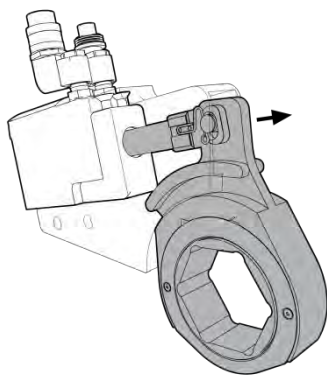

FIGURE 9 – Fully Advanced NHC Piston
- b. NHC tools – The Hex Link Cassette is extended past the body and the set pressure has been reached. See FIGURE 9.